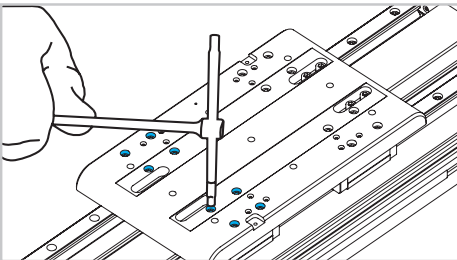

Fig. 8
- 7) Remove the fixing screws on the top of the carriage (Fig. 8).